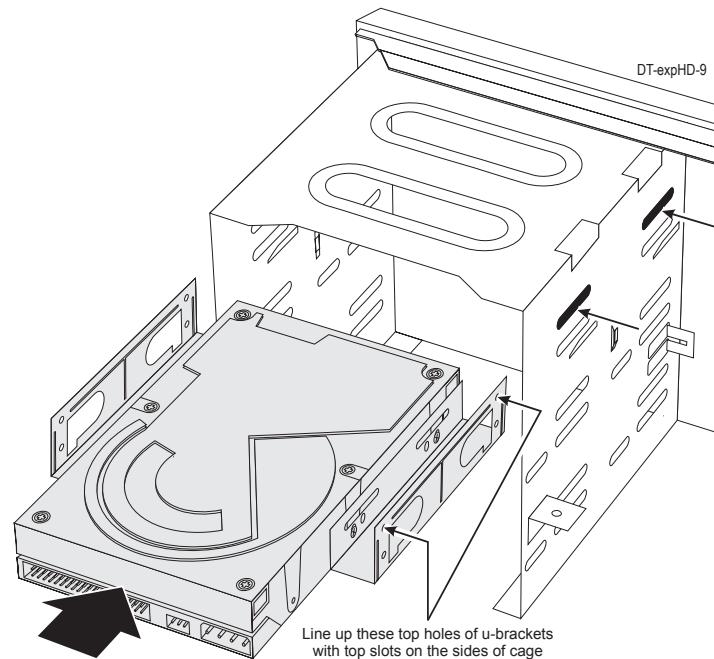

Figure 7
- Slide the expansion hard drive into the top of the cage until the top holes of the U-brackets line up with the slots in the sides of the cage. See Figure 7.